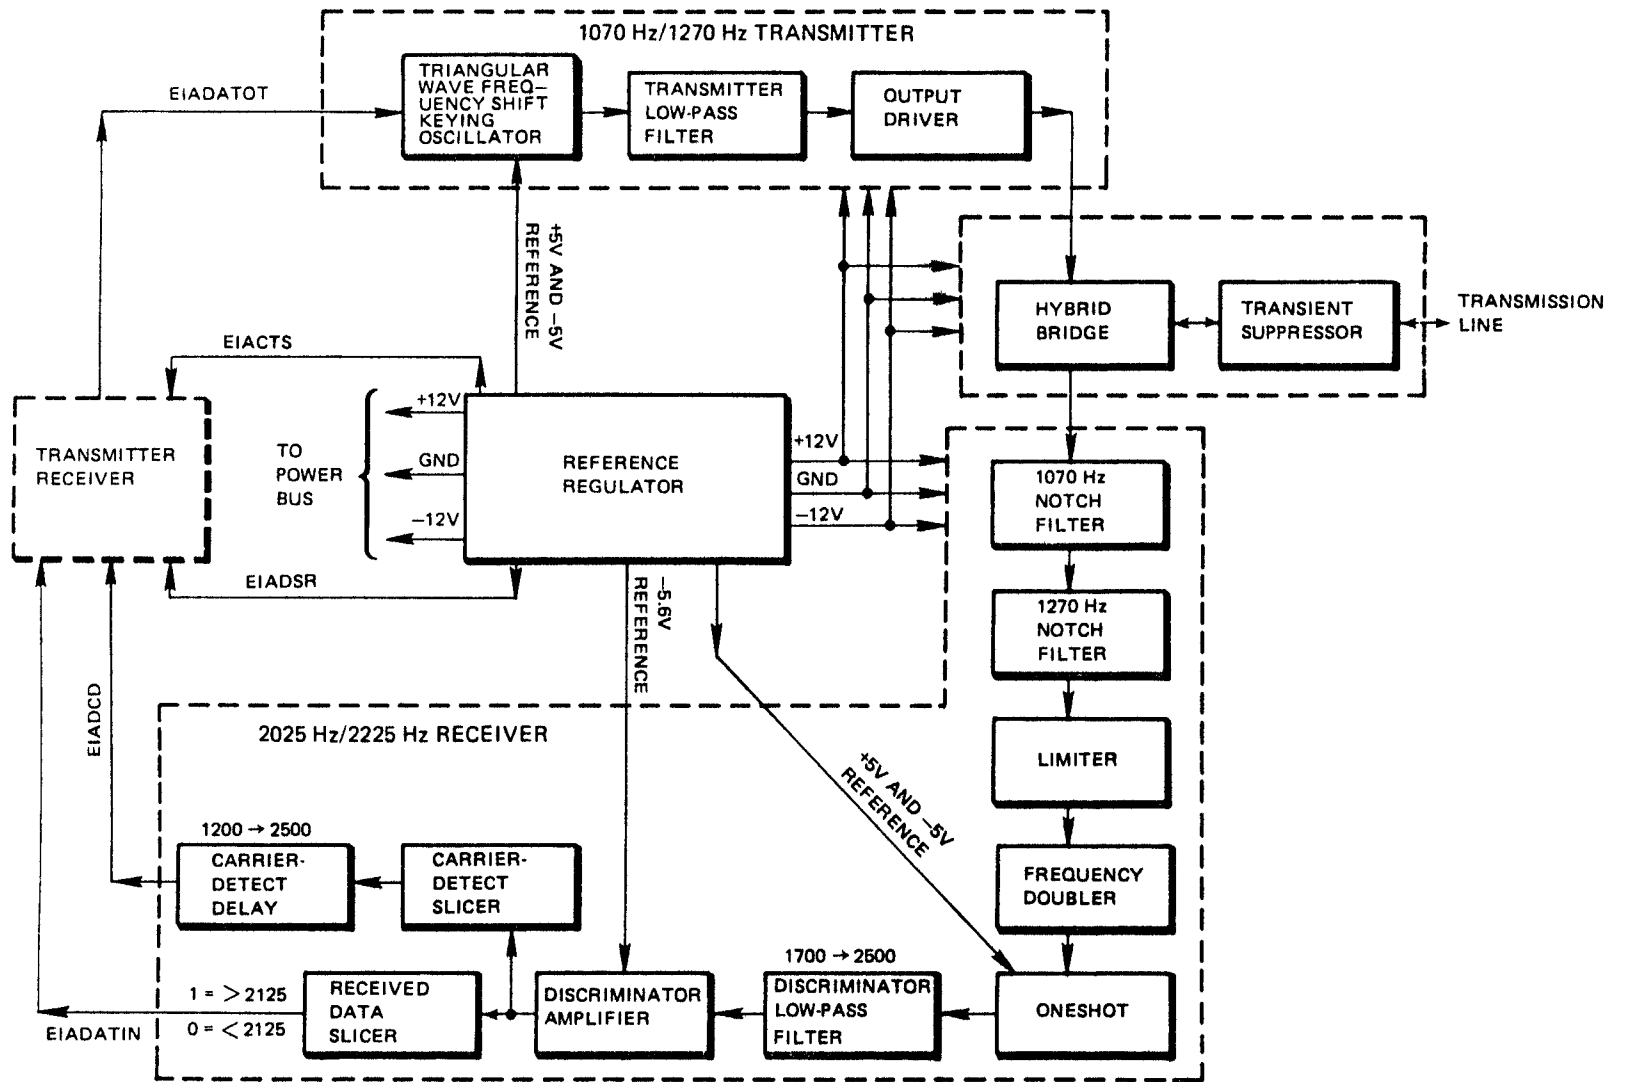

FIGURE 3-9.1. ORIGINATE-MODE (TL) MODEM FUNCTIONAL BLOCK DIAGRAM
3-9.1.4. TL Modem – Originate Mode. The TL Modem is an originate-mode PC card modem, designed to communicate with the comparable answer-mode (TH) modem. The transmitter section of the TL Modem converts a MARK level (EIADATOT low) from the serial transmitter into a MARK (1270 Hz) frequency on the transmission line and converts a SPACE level (EIADATOT high) into a SPACE (1070 Hz) frequency on the transmission line. The TL modem receiver section converts a received MARK (2225 Hz) frequency on the transmission line into a MARK level (EIADATIN low) for the serial receiver and converts a received SPACE (2025 Hz) frequency on the transmission line into a SPACE level (EIADATIN high) for the serial receiver. Modulation and demodulation processes may be carried out for data rates up to 300 baud. A block diagram of the TL modem is shown in Figure 3-9.1.